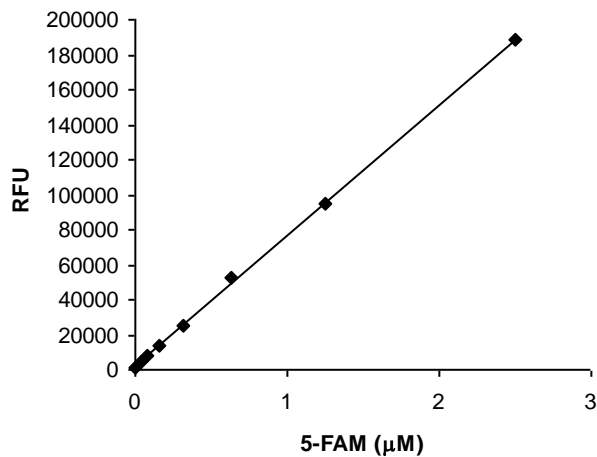

Figure 2. 5-FAM reference standard.
- Plot the 5-FAM fluorescent reference standard curve as RFU (relative fluorescent units) versus concentration as shown in Figure 2.